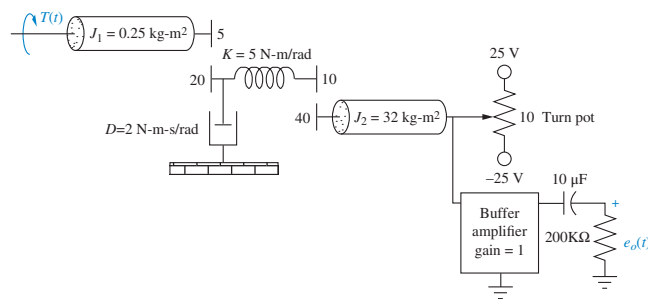

FIGURE I-5.6
6. Find the transfer function  $G(s) = E_o(s)/T(s)$  for the system shown in Figure I-5.6.